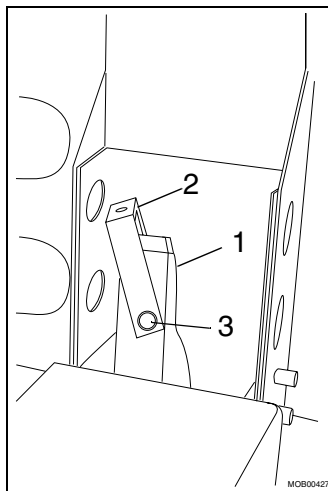

Fig. 31 Curve and fork
43. Carefully lift out the curve (pos. 1 / Fig. 31) including fork (pos. 2 / Fig. 31) from the patient's side of the MOBILETT.
44. Loosen the curve from the fork by removing the shaft (pos. 3 / Fig. 31). The shaft is mounted with locking rings which have to be removed in order to remove the shaft.